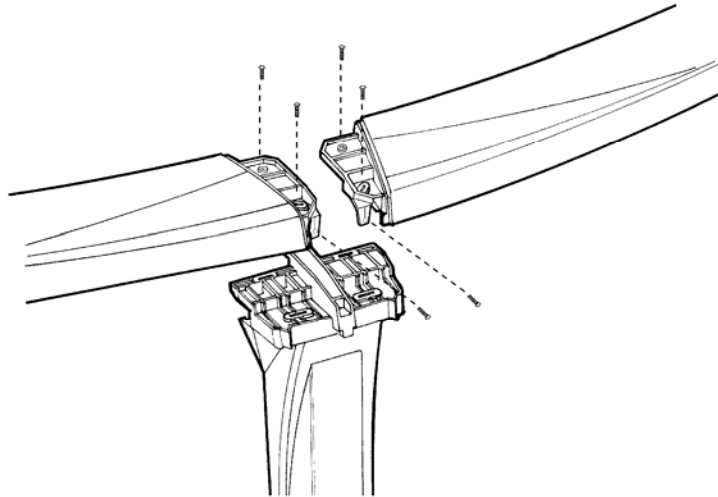

Figure 2.1
Position and place the top rails as indicated in (figure 2.1). The slots on the top rails should line up with the holes on the joining plates. Insert the top 3/4-inch screws (P) without tightening them too much.